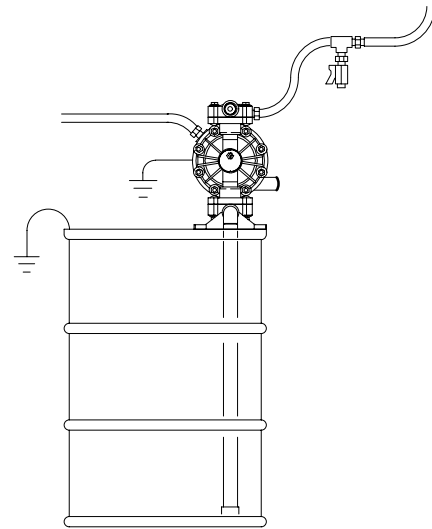

Fig. 1
3. Mount Husky 515 pump with syphon on drum. Refer to manual 308981 and Fig. 1.